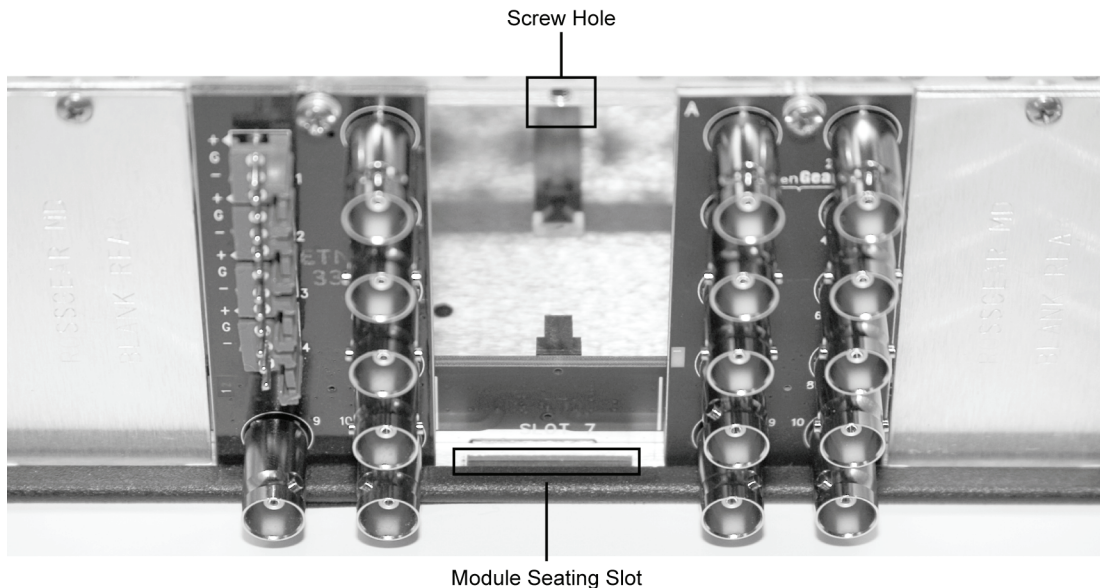

Figure 4. Rear Module Installation
3. As shown in Figure 4, seat the bottom of the RM-8300-B in the seating slot at the base of the frames back plane.